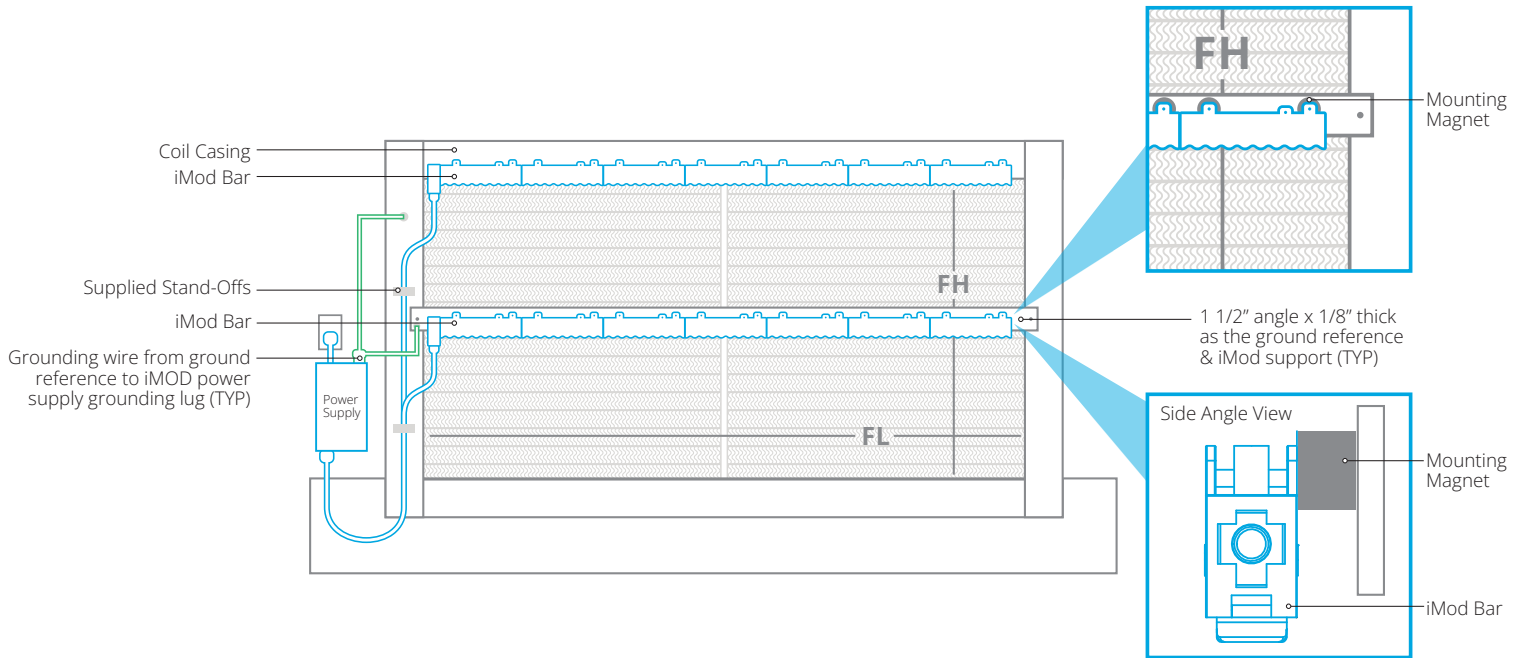

Figure 5.
- When applied to a coil, the iMOD bar can cover a maximum of 60" vertical coil height; for cooling coil finned height (FH) greater than 60" a second iMOD bar should be utilized with vertical coverage being equal. See Figure 5 for reference.